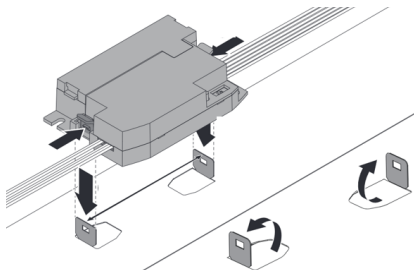

Fig. 5
- Install by placing the emergency kit in between the metal tabs which clips to secure the EM kit on gear tray (see Fig. 5)